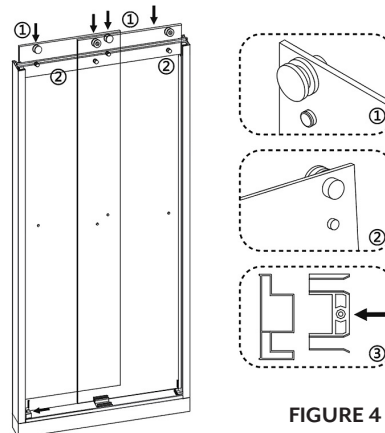

FIGURE 4
(See Figure 4). Install rollers and anti-jumping blocks (1) (2). Install the side guide at the bottom of vertical wall profile (3). NOTE: Thread locker (Loctite® brand or similar) is REQUIRED for all threads on rollers (part #7) and anti-jumps (part #6). Be sure to follow the manufacturers recommendations for cure times when making final adjustments. Thread locker is NOT included in the kit but is readily available at many hardware stores and from many online retailers.